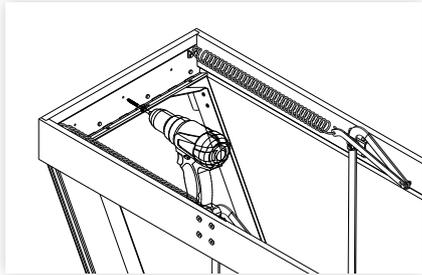

figure 13
5. From a step ladder or work platform, fix the hinge end of the ceiling cupboard to the ceiling framing through the predrilled holes in the hinge plate (figure 13). Use the timbertight screws supplied. Do not fit tight yet.